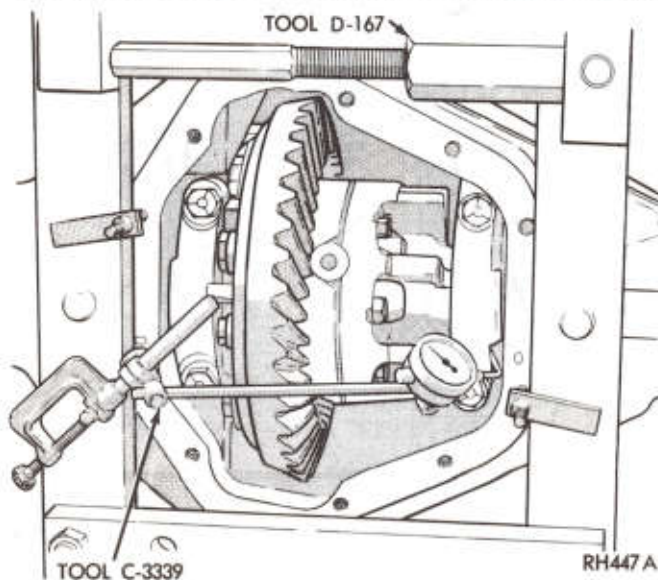

Fig. 5—Spreading Rear Axle Housing
(9) Install pilot stud on left side of axle housing. Attach dial indicator and load indicator stem slightly against opposite sides of axle housing (Fig. 5).
(10) Tighten spreader tool nut sufficiently to obtain .015 inch (.38 mm) movement of dial indicator to permit removal of differential case and ring gear assembly.